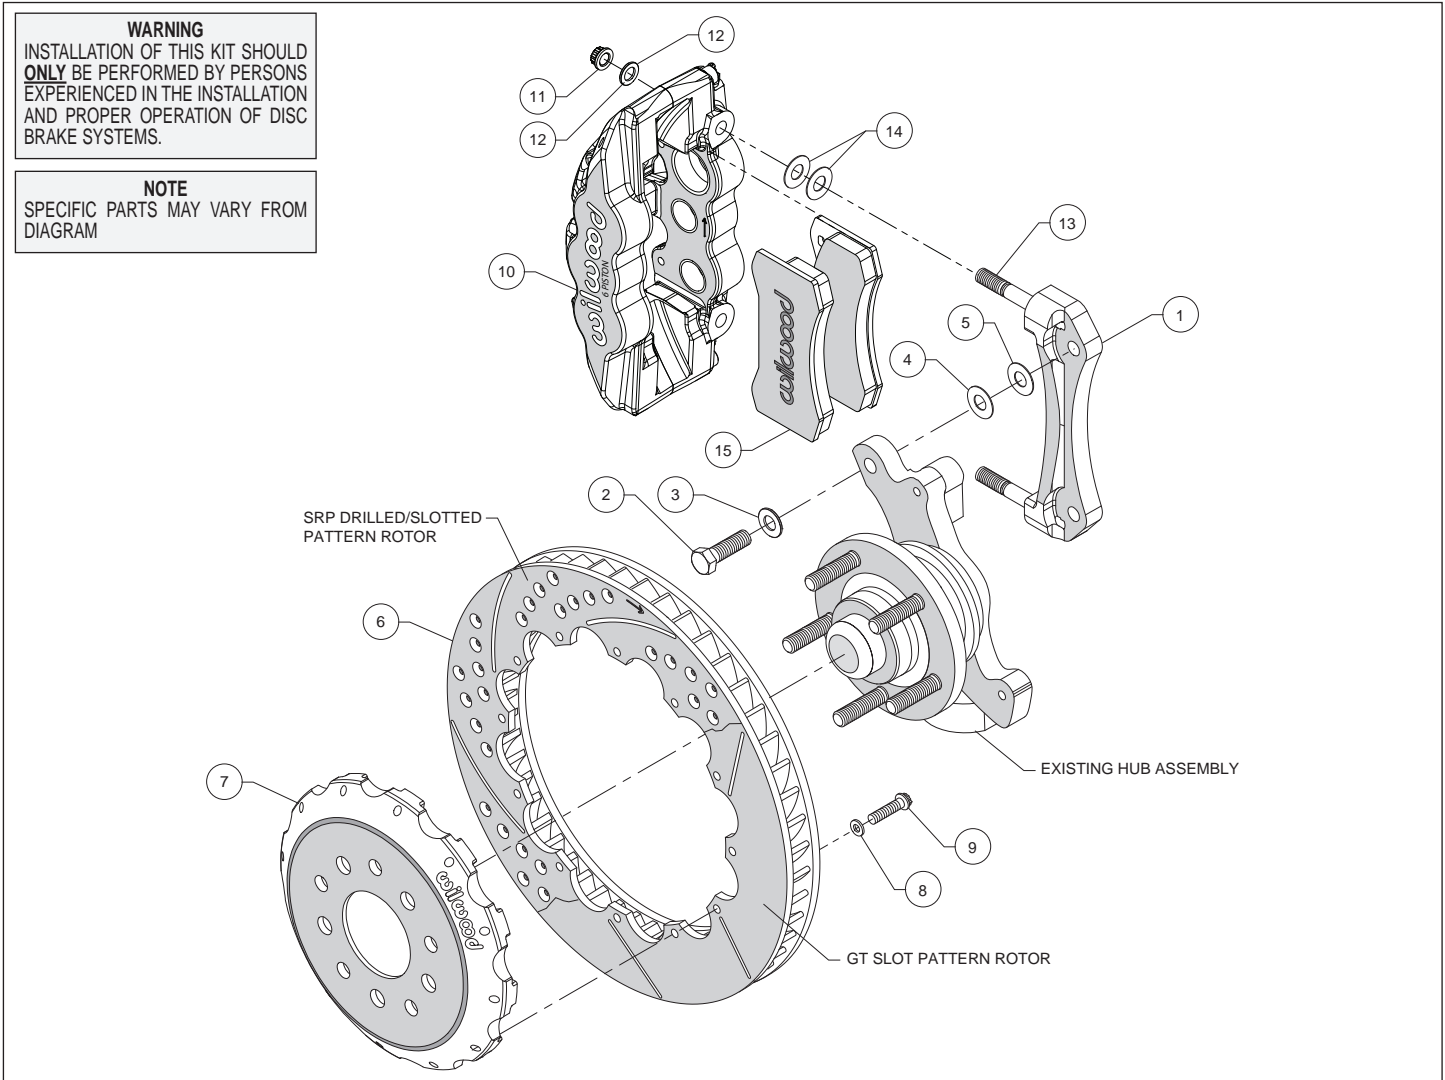
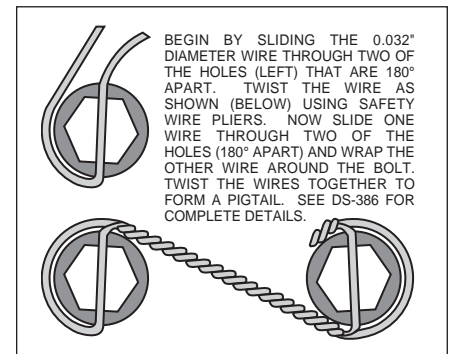

Figure 1. Typical Installation Configuration
Figure 4. Safety Wire Diagram
- The caliper mount bracket assembly (1) should be installed first with clean, dry threads on the mounting bolts. Install the bracket on the inboard side of the spindle by sliding bolt (2) through flat washer (3), and spindle ear from the outboard side of the spindle. Place two shim washers (5) between the bracket (1) and the spindle (see figure 1). The bracket must tighten squarely against the inboard side of the modified caliper mount bosses on the spindle body. Inspect for interference from casting irregularities, machining ridges, burrs, etc. Later, after the caliper, pad, and rotor alignment has been checked, and any necessary shims have been put in place, the mount bolts should be coated with red *Loctite*® 271 and torqued to 60 ft-lbs.
- With the larger I.D. side of the rotor (6) facing away from the hat (7), bolt the rotor (6) to the hat (7) through the backside of the rotor using washers (8) and bolts (9) provided in the configuration pictured in figure 1. Using an alternating sequence, apply red *Loctite*® 271 to the threads and torque bolts to 155 in-lb. For an added measure of security, the bolts may be safety wired using standard 0.032 inch diameter stainless steel safety wire as shown in Figure 4.
- Lubricate caliper mounting studs (13) and nuts (11) with lightweight oil. Install two shims (14) over each stud (13) on the radial mount bracket. Slide the caliper (10) in place over the studs and rotors and install the washer (12) and lock nut (11) to hold the caliper in place. The caliper bleed screws should be pointing up. Snug the lock nuts (11) and check that the rotor (6) is centered in the caliper (10). Add or subtract shims (4 and/or 5) as necessary between the mounting bracket (1) and the spindle to center the caliper (10).
- Remove the two pad retaining pins from the caliper (10) by carefully popping out the pin retaining clips and sliding out the pins. Insert the brake pads (15) into the caliper from the bottom, Figure 1. With the friction material facing the rotor, secure the brake pads in place with the pad retaining pins and clips. Reinstall the caliper onto the caliper mounting bracket and temporarily tighten the lock nuts. Check that the top of the brake pad is flush with the outside diameter of the rotor. If not, adjust by adding or subtracting shims (14) between the caliper and the bracket.
- Once all clearances have been checked, remove the wheel, caliper, hat, and rotor from the spindle and hub. Secure the caliper mounting bracket (1) to the spindle using red *Loctite*® 271. Torque the bolts to 60 ft-lbs. Reinstall the hat and rotor assembly and again use three lug nuts to hold it in place. Reinstall the caliper, torque the caliper nuts (11) to 30 ft-lbs.